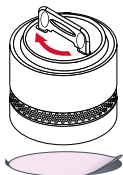

Fig. 3
### Preparations (see Fig. 3):
- Activate the smoke detector by pressing down the mounting plate and turning it clockwise at the same time (see Fig. 3). When you hear the housing cover click into place, the smoke detector is activated/connected to power supply.